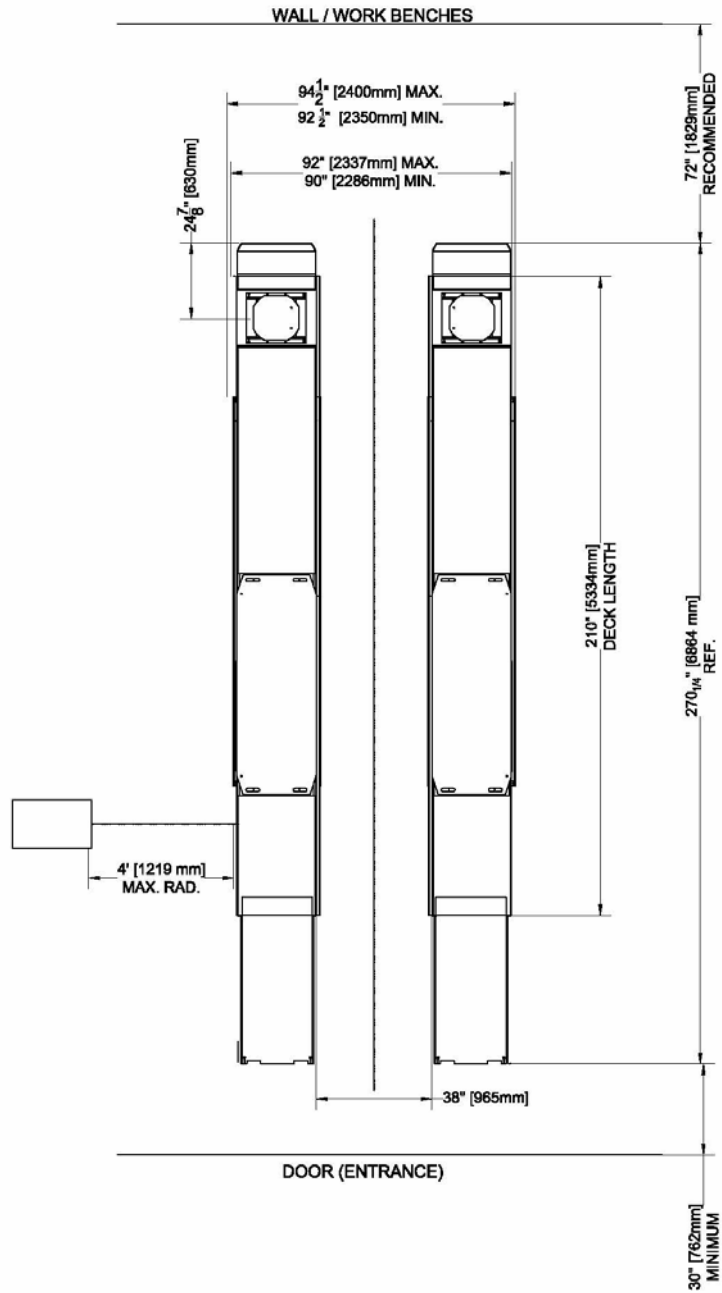

Figure 2 - Typical Bay Layout (Surface Mount)
1. With reference to **Figure 2**, the installer should locate the most suitable location in the shop for the lift.